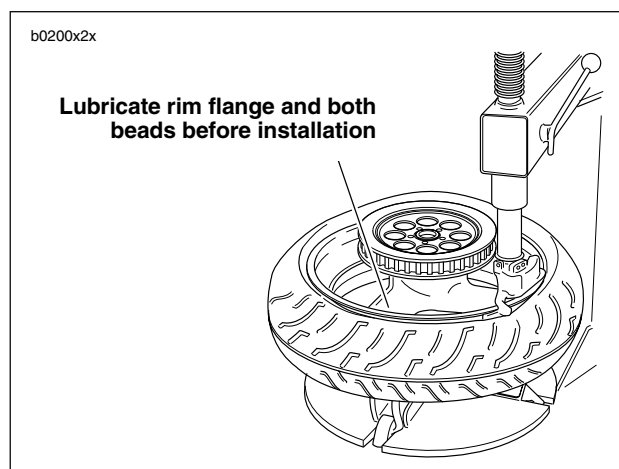

Figure 2-14. Starting Bead on Rim
4. See Figure 2-14. Starting at the valve stem, start first bead into the rim well using a bead breaker machine. If no machine is available, work bead on as far as possible by hand. Use a tire tool to pry the remaining bead over rim flange.